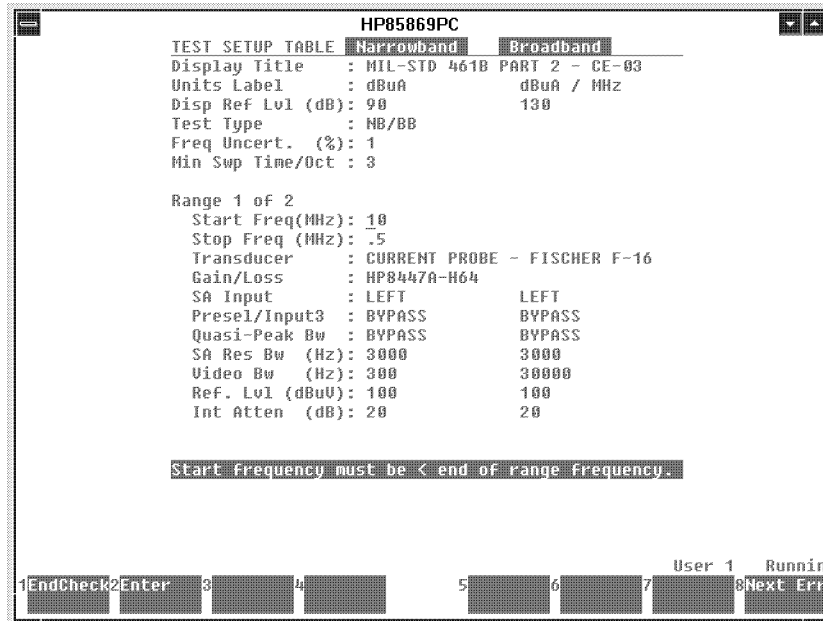

Figure 5-6. Errors Occurred Prompt
- If errors exist in the test setup table, the program displays a message, as shown in Figure 5-6, on the computer screen: